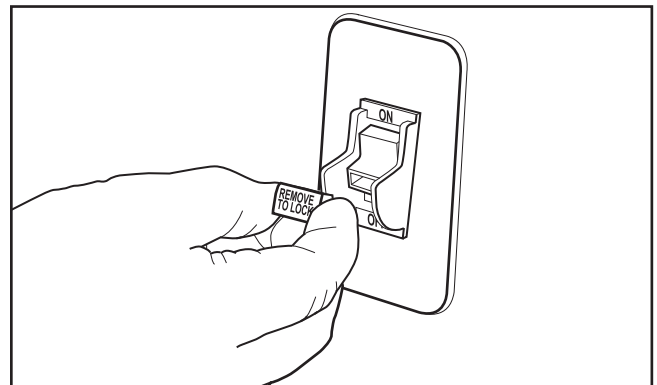

Figure 5. Removing switch key.
6. Remove the switch disabling key, as shown in **Figure 5**.